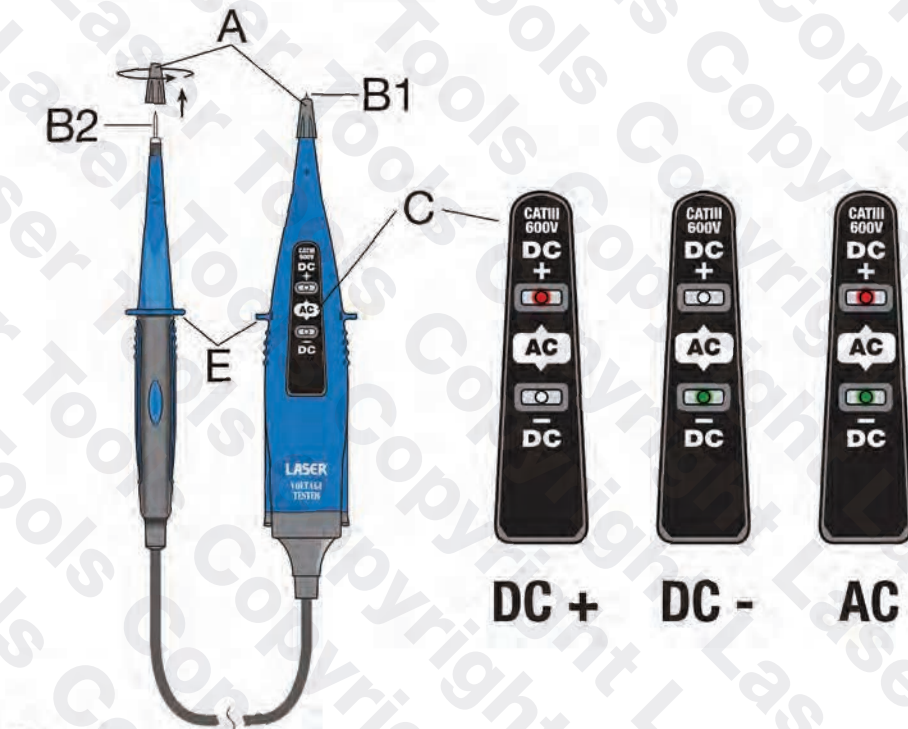

Fig 1
- Refer to **Figure 1**: Leave the probe safety caps (**A**) in place during normal use. If necessary, the safety caps can be removed to reveal a longer probe (**B**) if, for example, the terminals or components are shrouded or difficult to access.
- Keep hands and fingers behind the barriers (E in Figure 1) during testing.